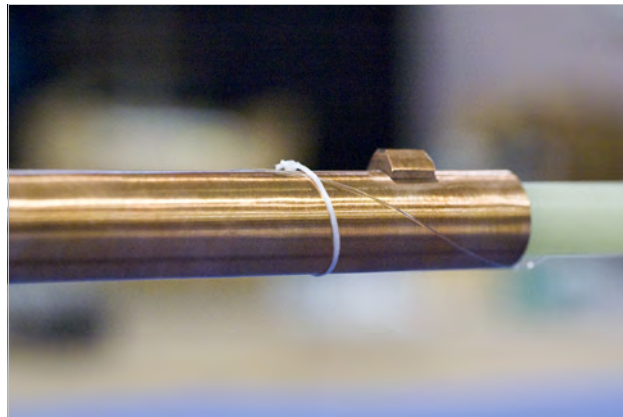

FIGURE 5-22 *Tie the optical fiber to the arm*
13. Using unwaxed dental floss, tie the fiber to the arm to keep it from unraveling during use (FIGURE 5-22).